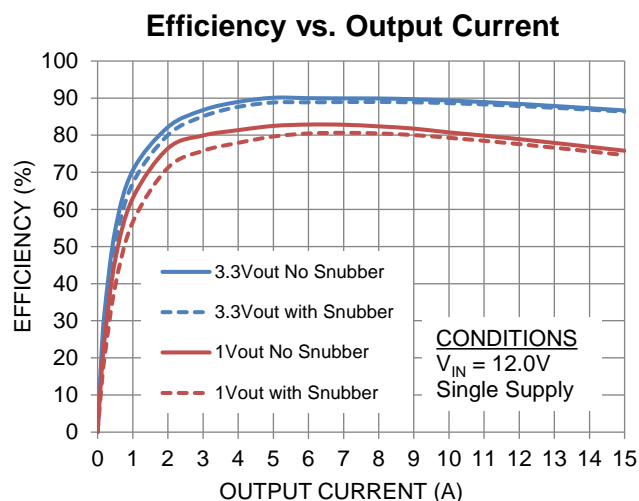

Figure 11: Efficiency with/without Snubber
If the maximum output capacitance in the application exceeds 50% of the COUT_MAX value in Table 3, then a “snubber” circuit is required (See Figure 1). The “snubber” circuit is a series resistor and capacitor from the NC(SW) pin to PGND. The “snubber” values are optimized for the EN23F2QI and should be followed to within 10% of the recommendations. Due to the added power dissipation, using the “snubber” will decrease the converter efficiency as shown in Figure 11. It is recommended to use at least a ¼W resistor at 1206 case size or greater due to power dissipation. The capacitor should be at least 0603 case size.